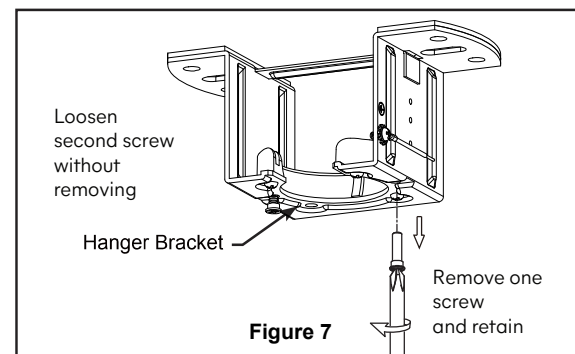

Figure 7
2. Loosen the second screw slightly but do not remove it completely. (See Figure 7)